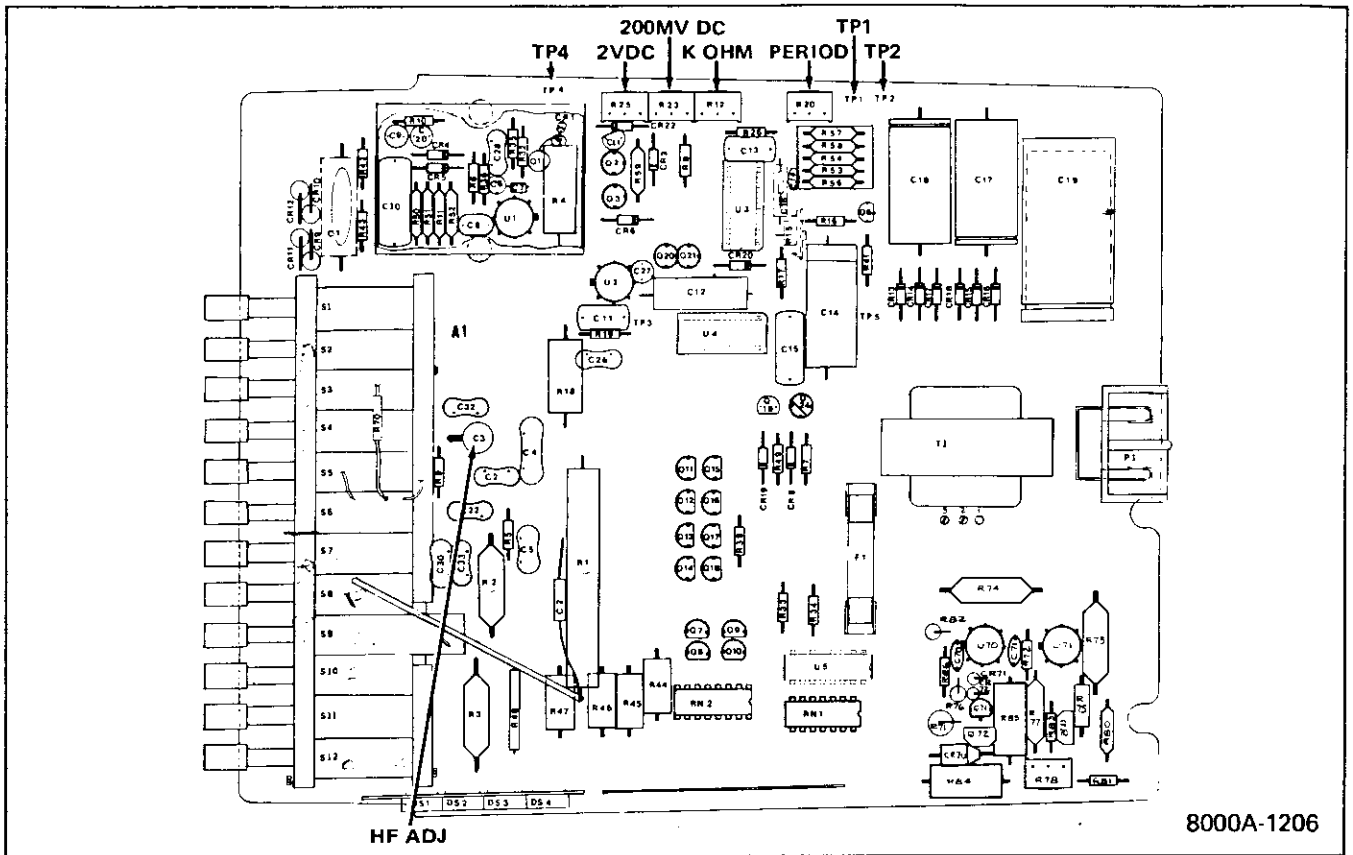

Figure 4-1. ADJUSTMENT AND TEST POINT LOCATIONS
- a. Connect the frequency counter between TP5 and TP4 (common) as shown in Figure 4-1.
- c. Using an appropriate adjusting tool, adjust R20 (PERIOD), shown in Figure 4-1 for a positive waveform portion of 100 ms \pm 5 μ s. Variations of the time period should be \leq \pm 15 μ s.
- c. Adjust R23 (see Figure 4-1) for a readout of +190.0.
4-32. The 8000A range adjustments are accomplished in accordance with the instructions given in Table 4-3. Perform each adjustment and/or check in the order listed. The shaded areas of the table separate the adjustments from the checks. Refer to Figure 4-1 for the location of the specified adjustment. The following test equipment from Table 4-1 is used to provide the input specified for each function.